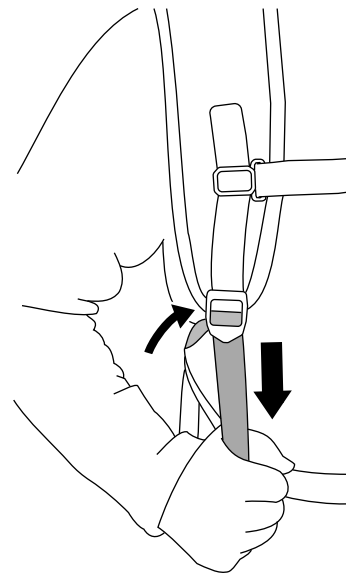

Figure 11
4. Pull down on the shoulder strap adjuster until the straps are snug (Figure 11).